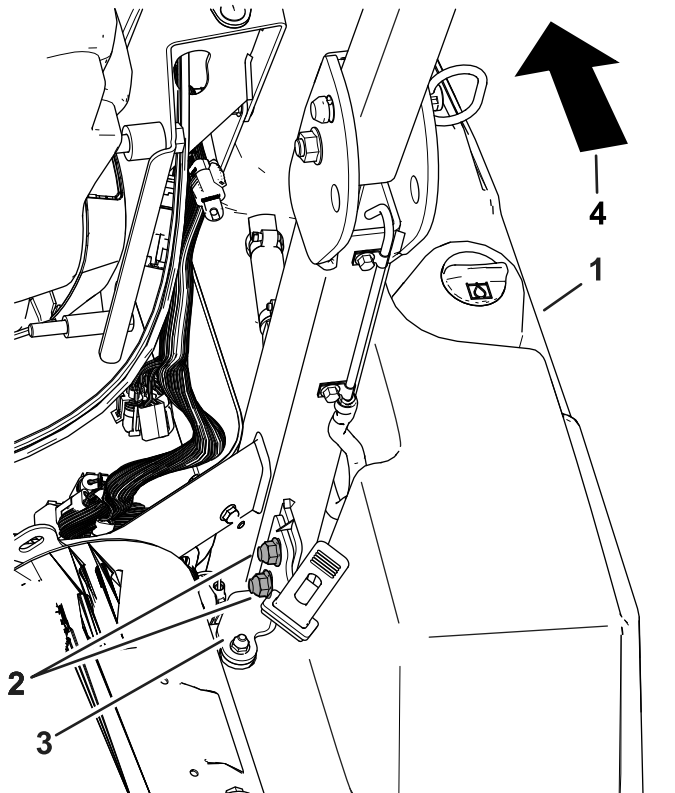

Figure 8
4. Install the rear tank bracket behind the roll bar using the previously removed bolts. Push down on the bracket while tightening the bolts. Refer to Figure 8.